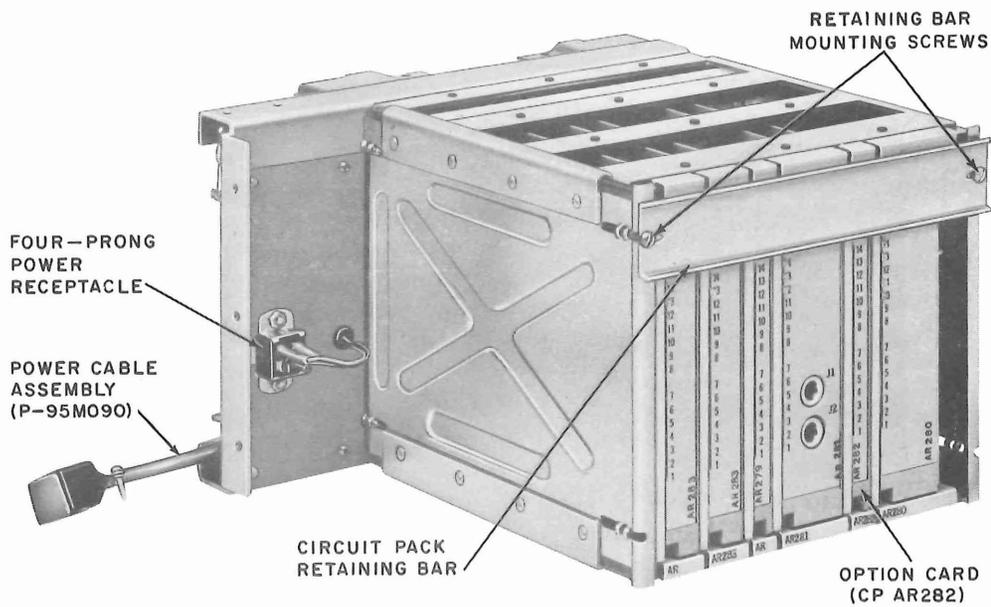

Fig. 10—Data Auxiliary Set 824A1—Front View
2.08 When the DAS 824A1 (Fig. 10 and 11) is mounted adjacent to DAS 806B7 or 806D1 in the same horizontal mounting space, two mounting bars (P-46M668) and eight screws, supplied as part of the 87-type mounting brackets, are used to fasten the two sets together (Fig. 12). After the two sets have been connected together, the mounting brackets are attached and the sets are mounted in the cabinet.
- (a) Remove the circuit pack retaining bar by unscrewing the two mounting screws which fasten it to the front of the unit (Fig. 10). The retaining bar has notches at its ends for the purpose of removing circuit packs.